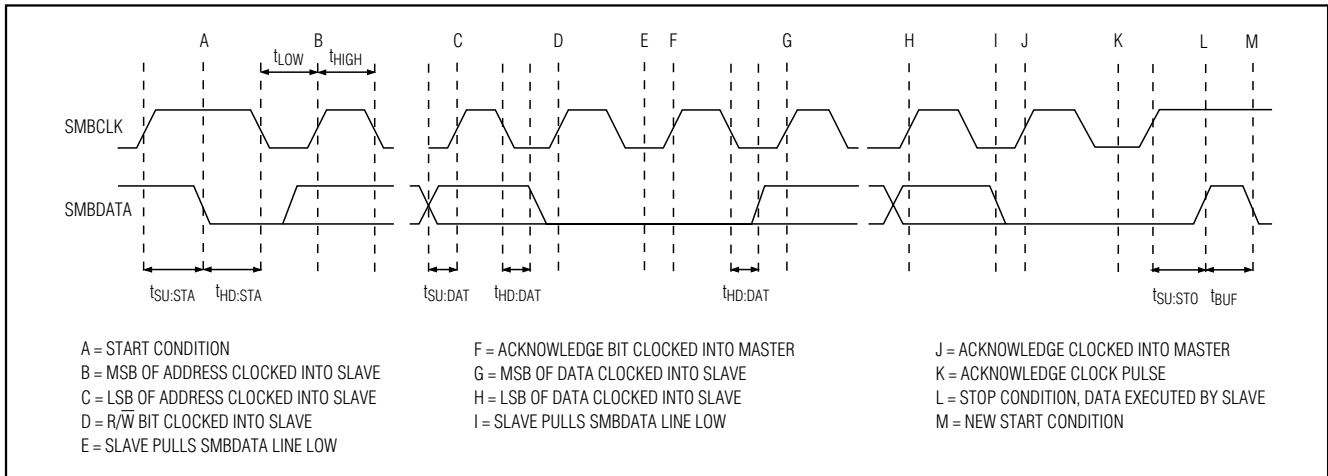

Figure 15. SMBus Write Timing
municating with the slave, the master issues a STOP condition (P), which is low-to-high transition on CRF/SDA, while CTL/SCL is high. The bus is then free for another transmission. Figures 15 and 16 show the timing diagram for signals on the 2-wire interface. The address-byte, command-byte, and data-byte are transmitted between the START and STOP conditions. The CRF/SDA state is allowed to change only while CTL/SCL is low, except for the START and STOP conditions. Data is transmitted in 8-bit words and is sampled on the rising edge of CTL/SCL. Nine clock cycles are required to transfer each byte in or out of the MAX1996A since either the master or the slave acknowledges the receipt of the correct byte during the ninth clock. If the MAX1996A receives its correct slave address followed by $R/\bar{W} = 0$, it expects to receive 1 or 2 bytes of information (depending on the protocol). If